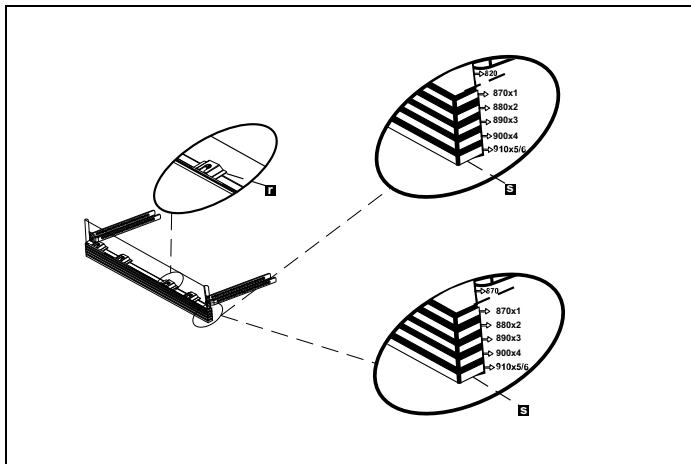

Fig. 20
3) As shown in Fig. 20, the cylindrical feet of the adjustable toe kick are attached to the toe kick fixing metal parts and inserted through the cavity of the part.